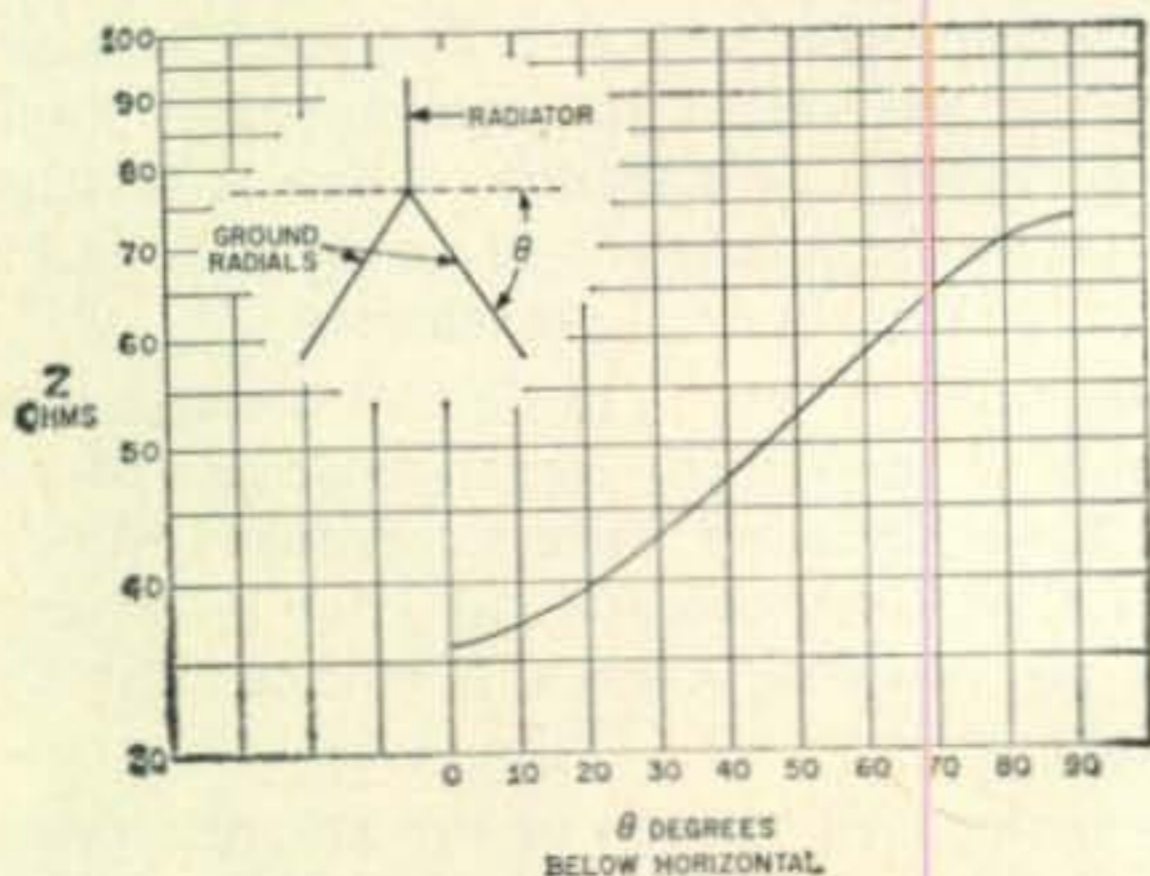

Fig. 1—The above chart shows the approximate impedance of the ground plane antenna for various angles of the radials.
ground plane antenna with drooping radials. This antenna was selected because it is extremely simple to construct and is easily adjustable for a proper impedance match simply by bending the radials up or down with respect to the vertical radiator. Figure 1 shows the approximate relationship between the antenna impedance and the position of the radials in degrees below the horizontal.
The circuit (fig. 1) to be described can be employed in any of the aforementioned positions,
Fig. 1(A)—Basic stabilized Q multiplier circuit generally connected to the plate circuit of the converter. (B)—Variation of the same circuit used as a regenerative second detector. (C)—The same basic circuit used as a converter provides a considerable increase in sensitivity and reduces the noise figure by one half or better. The diode, D₁, used for all three circuit versions is a 1N34 or equivalent.